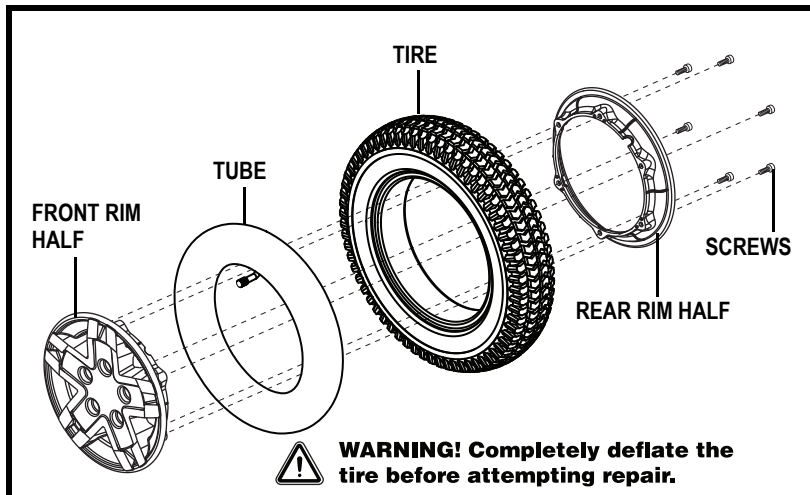

Figure 20. Q6 Series Drive Wheel Disassembled
6. Remove the screws and separate the front and rear rim. See figure 20.
10. Reinstall the five (5) lug nuts onto the wheel hub and tighten.